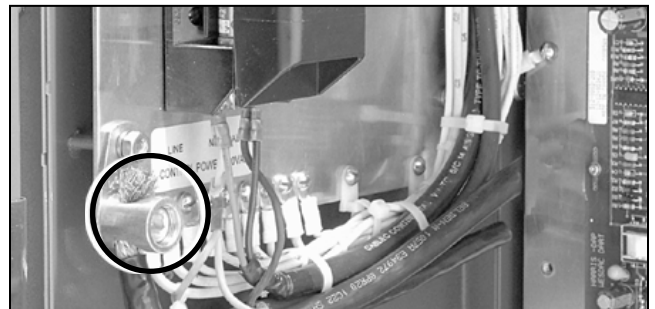

Figure 66. The copper lug and the fuse block.
- (g) Connect the heavy-shielded cable to the copper lug on the low-voltage enclosure grounding plate. See Figure 66.
To connect external control power, connect the line and neutral to the fuse block. See the label under the fuse block. See Figure 66.